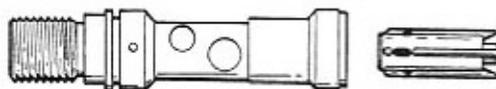

Figure 11
8. Hold the valve body (item 10) with the two large holes in the valve body facing up. Slide the retainer (item 6), with the rib that has a hole through it facing up, disc end first into the valve body (figure 11).